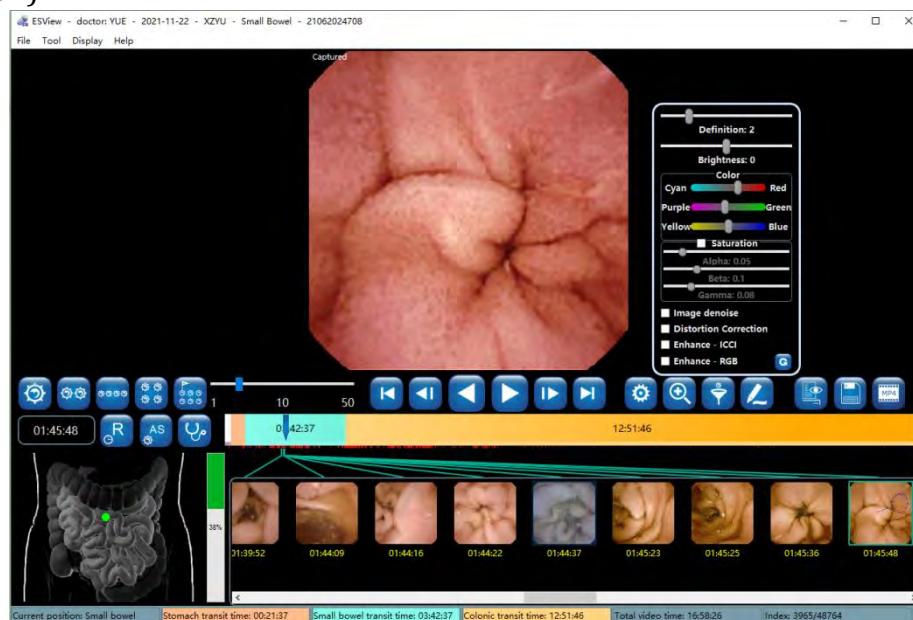

Figure 4-37: Definition and Brightness Adjustment
7. Use the definition and brightness sliders to adjust the definition and brightness of the image (Figure 4-37).